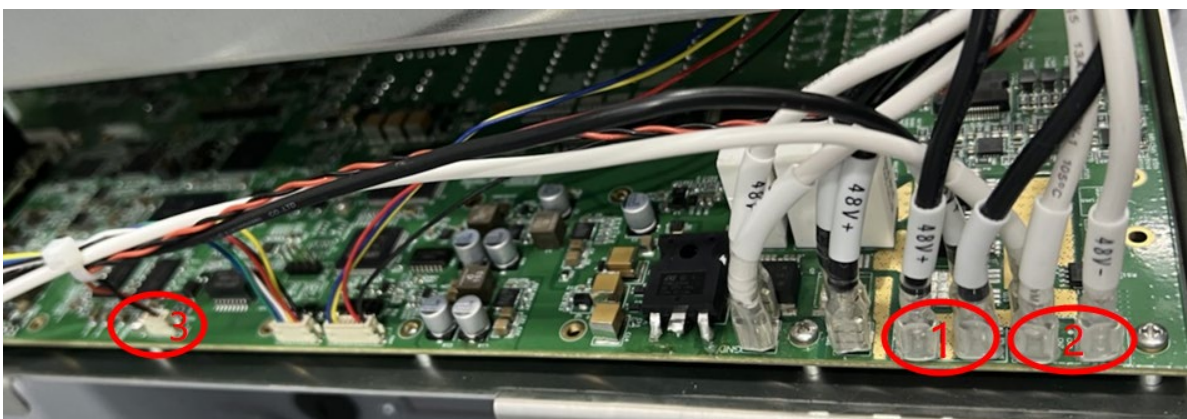

Figure 3-28 Cable location on Safe IO
- Disconnect the cable from the robot arm to the Safe IO as shown in Figure 3-28: